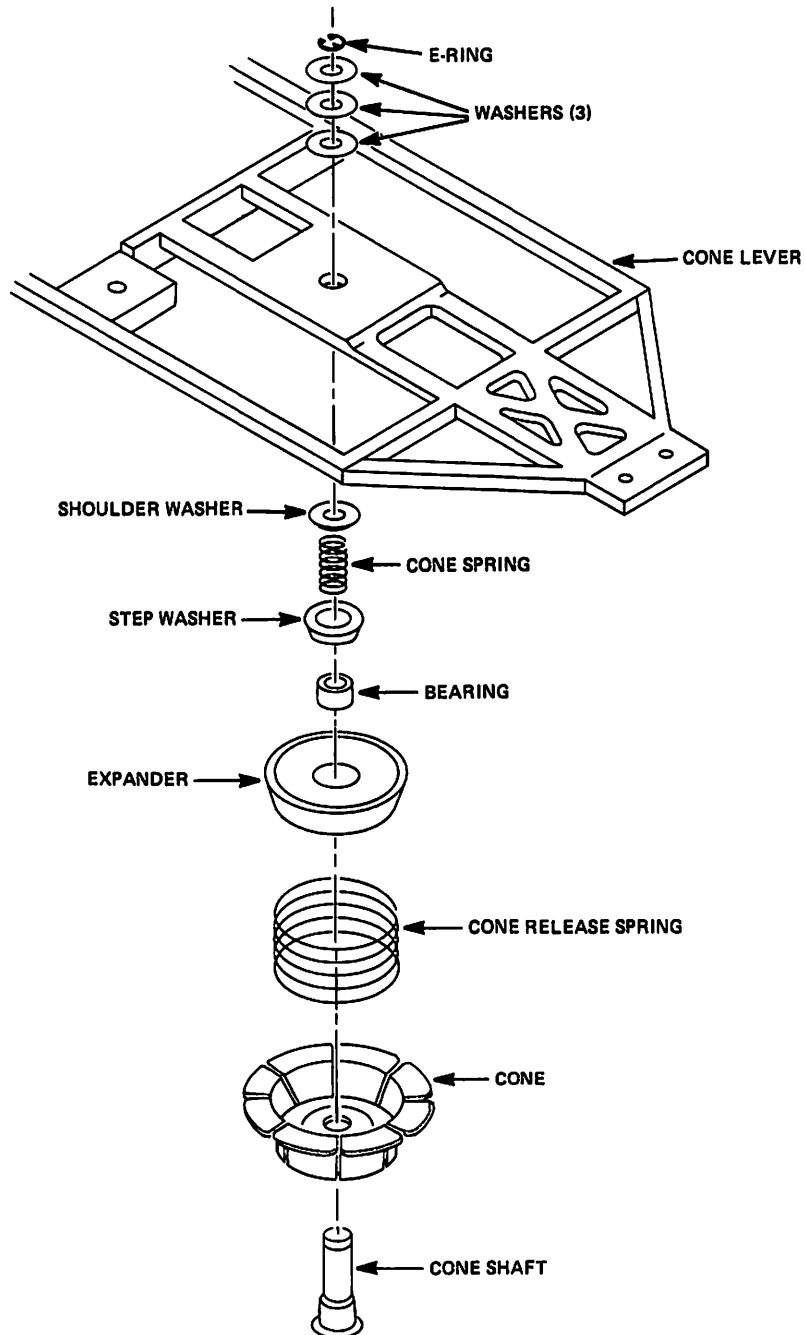

Figure 5-8
5.5.2 Remove the Cone Lever Assembly (see Section 5.4) (see Figure 5-8).
5.5.7 Install the three (3) washers and the E-ring in order to retain the Cone Lever Assembly (see Figure 5-8).